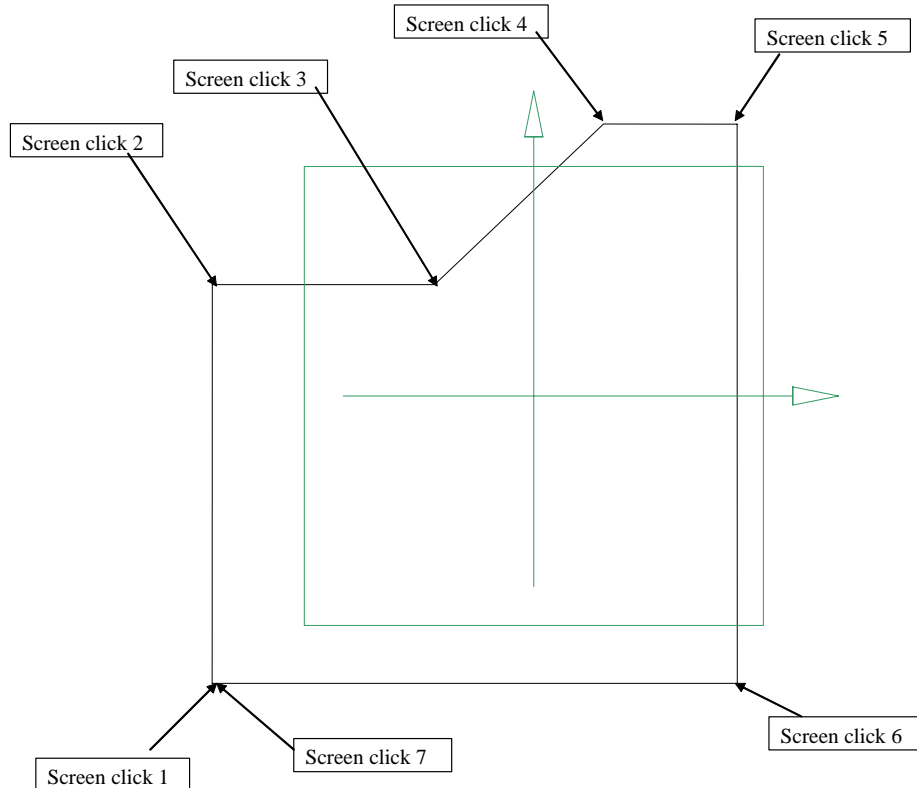

Figure 12
A datum plane coincident with the x-y plane has been created along with horizontal and vertical datum axes, as shown in Figure 12.
- Using left hand mouse button clicks create the shape shown in Figure 12.